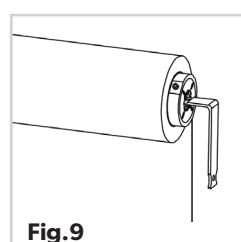

Fig.9
3. To increase the tension on the spring, use the tension adjustment tool provided and turn the spring loaded system 1 – 2 full rotations (counterclockwise) on the right of the shade. (Fig.9)
4. To decrease tension on the spring, use the tension adjustment tool and turn the spring loaded system 1 – 2 rotations on the right of the shade clockwise (to the right). (Fig 9)